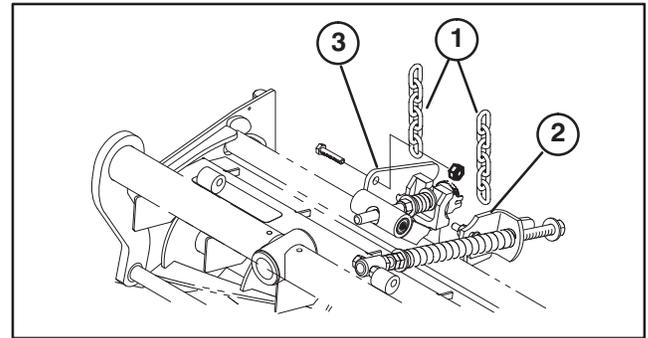

Figure 7
- On front center cutting unit, remove nut securing turf compensation spring mounting bracket to left cutting unit stabilizer ear (Fig. 7). Insert left tipper chain onto capscrew and secure with nut removed.
- Secure right tipper chain to right cutting unit stabilizer ears with a 3/8–16 x 1" lg capscrew and flange nut supplied in loose parts (Fig. 7).